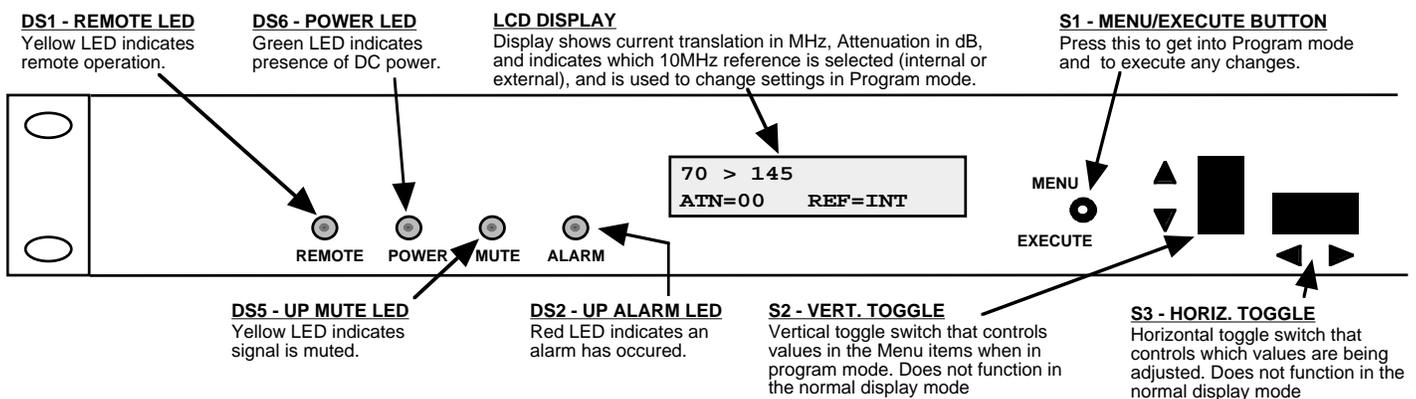

FIGURE 2.2 2083-914A Front Panel Controls and Indicators
8. Be sure DS6 (green, POWER) is on and DS2 (red, ALARM) is off (Figure 2.2).
Alarm indications appear on the LEDs (see figure 2.2).